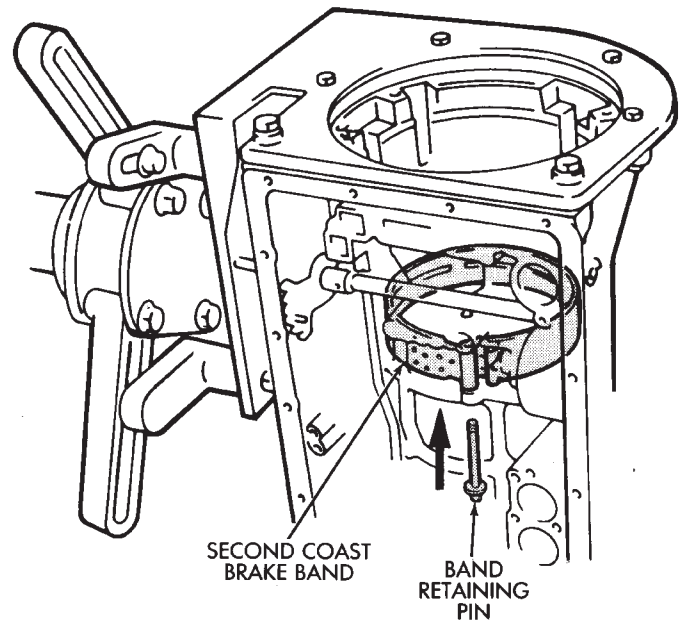

Fig. 23 Installing Second Coast Brake Band Retaining Pin
(28) Install pin in second coast brake band. Then install retaining ring on pin (Fig. 23).